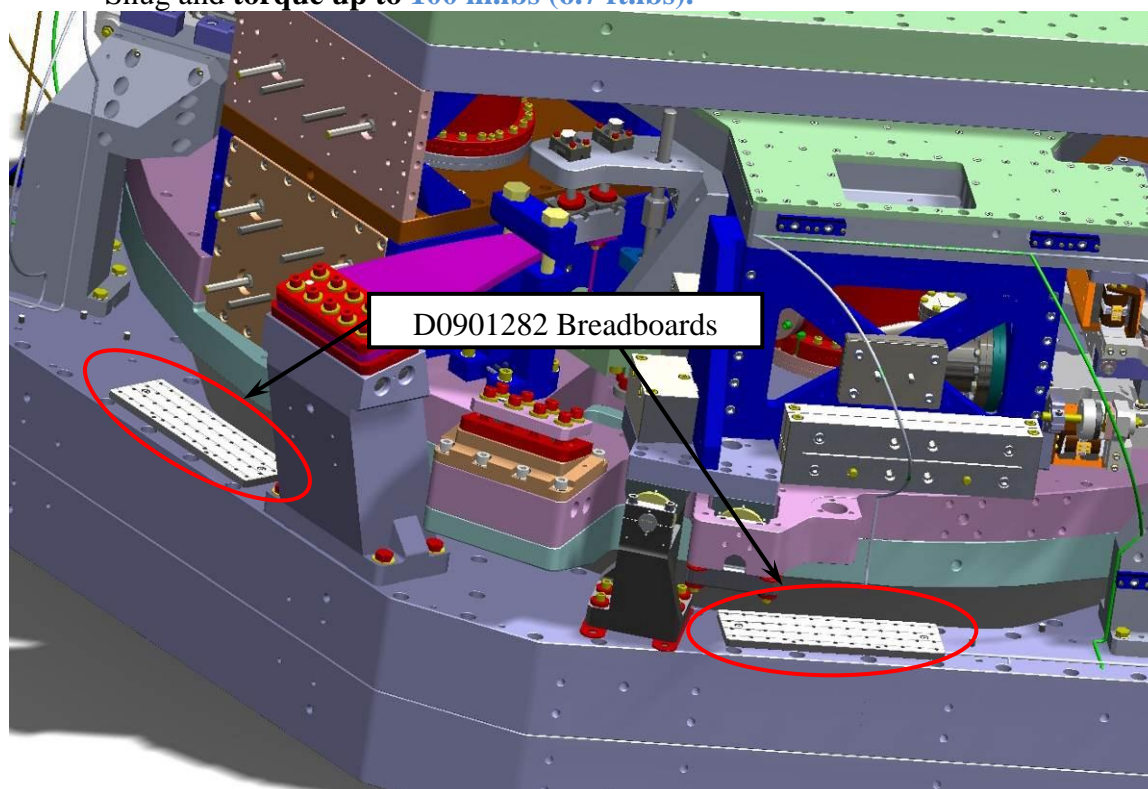

Figure 133: Location of D0901282 Breadboards on Stage 0
(12) 1/4-20 x 1" SHCS – MSC 75464404
- Install the D0901282 Breadboards as shown on Figure 133.